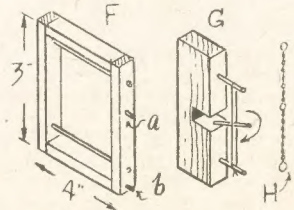

Fig. 3—The heddle frame
The heddle frame, Fig. 3 (F) is made to the dimensions given from $\frac{1}{2}$ in. by $\frac{1}{2}$ in. fretwood, glued and nailed together. Make it firm and square at its angles. At $\frac{1}{2}$ in. down from the top and $\frac{1}{2}$ in. up from the bottom bore $\frac{1}{8}$ in. holes for pieces of steel rod to fit across, on which healds, which carry the warp, can be set.